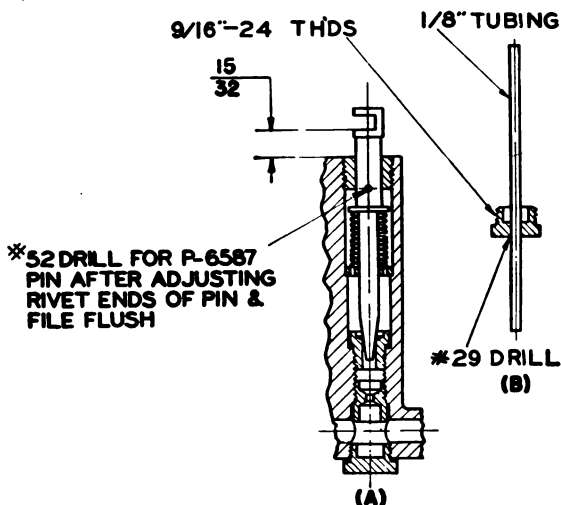

Figure 60.—Preliminary adjustment of mixture-control needle valve and holder on NA-R9B carburetor.
The mixture-control needle is screwed into the needle holder, and the needle should be adjusted in the holder so that it will have a travel of  $1\frac{7}{64}$  inch, and give a lever travel of from 75 to 80 degrees. Under no circumstances should the needle-valve travel be more than  $1\frac{7}{64}$  inch, but no harm is done if it is  $\frac{1}{64}$  inch less. Make an approximate adjustment before assembling the needle valve in the upper part of the carburetor, by setting the bottom of the holder slot  $1\frac{5}{32}$  inch from the main body parting surface with the needle valve held against its slot. You will see this position in figure 60, view (A).